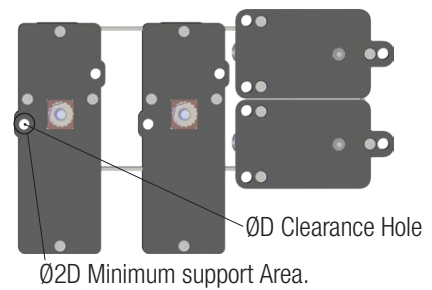

Figure: 4-3
2. The collector assembly should be supported around the clearance hole location, out to a minimum diameter of 2 times the clearance hole diameter. See **Figure: 4-3**.